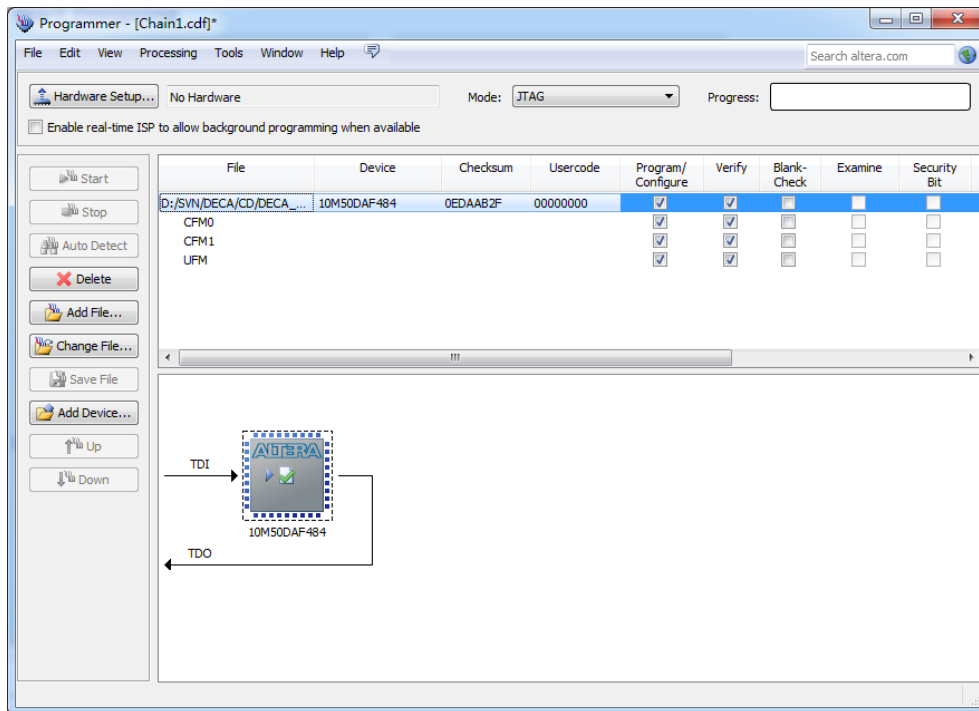

Figure 8-17 Quartus II programmer window with .pof file
4. Program the CFM device by clicking the corresponding **Program/Configure** and **Verify** box, as shown in **Figure 8-17**.